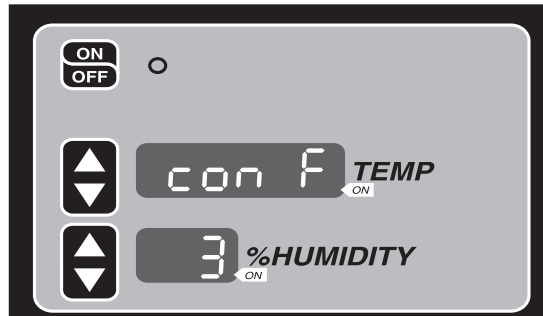

Fig. 14
3. Keep holding the three buttons until "conF" is shown in the Temperature display (Fig. 14).
5. Keep holding the three buttons until "conF" is shown in the Temperature display (Fig. 14).
3. Keep holding the three buttons until "conF" is shown in the Temperature display (Fig 14).